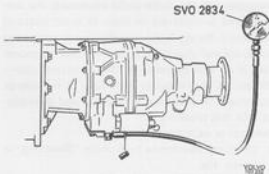

Fig. 4-53. Checking oil pressure
1. Remove the plug under the operating valve and connect the pressure gauge 2834, see Fig. 4-53.